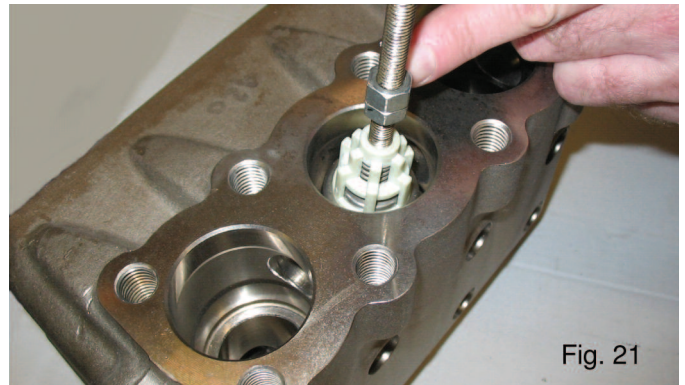

Fig. 21
- E) Extract the suction valve unit by using an extractor or a M8 threaded rod (see Fig. 21).